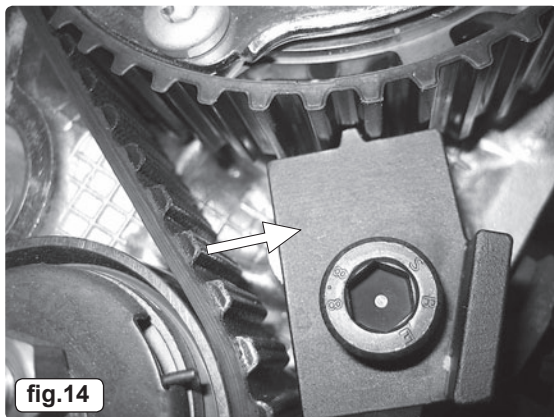

fig.14
- 3.3.14 Fit VS4953 Camshaft Sprocket Locking Tool to the engine, fitting the Tool into the teeth of the camshaft sprocket, and secure with the bolt supplied in the Kit. Tighten the bolt firmly (fig.14).